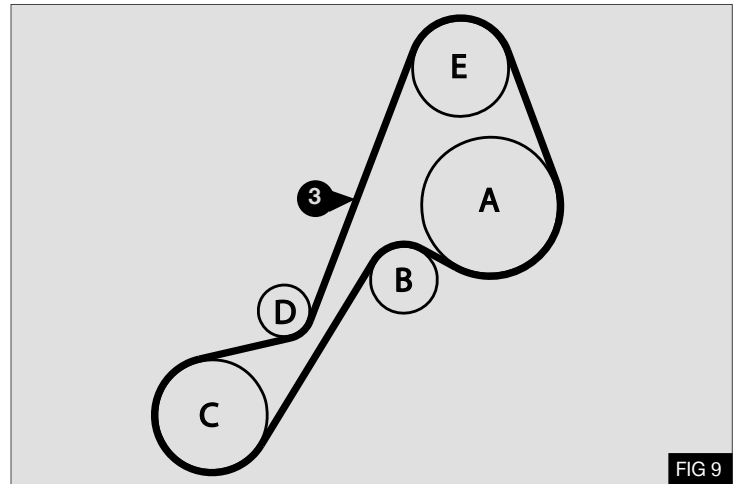

FIG 9
1. Feed the supplied drive belt (3) over the viscous fan and to the pulleys as shown opposite - Fig 9